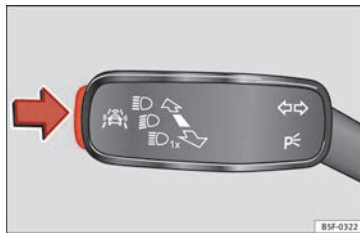

Fig. 45 On the turn signal and main beam headlight lever: button for the driver assistance systems
- Briefly press the button » Fig. 45 in the direction of the arrow to open the menu **Assist systems**.